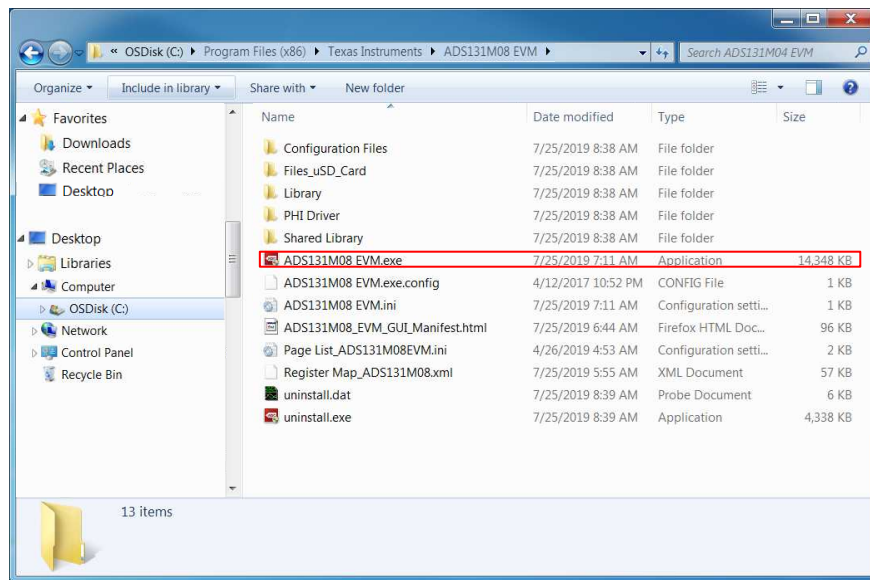

Figure 11. Launch the EVM GUI Software
3. **Figure 11** shows how to launch the ADS131M08EVM GUI software.